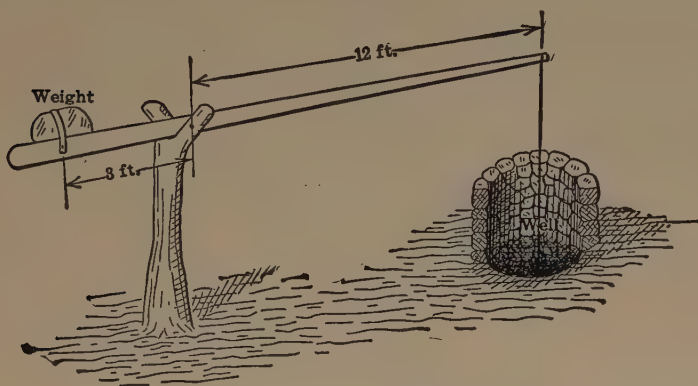

FIG. 14. — The well sweep is a lever.
**Problem.** An old well sweep, Fig. 14, has a heavy weight 3 feet from the fulcrum. This acts as force to lift water in a pail attached to the other end of the pole, which is 12 feet from the fulcrum. If the heavy weight falls 2 feet, how high will the pail be lifted.